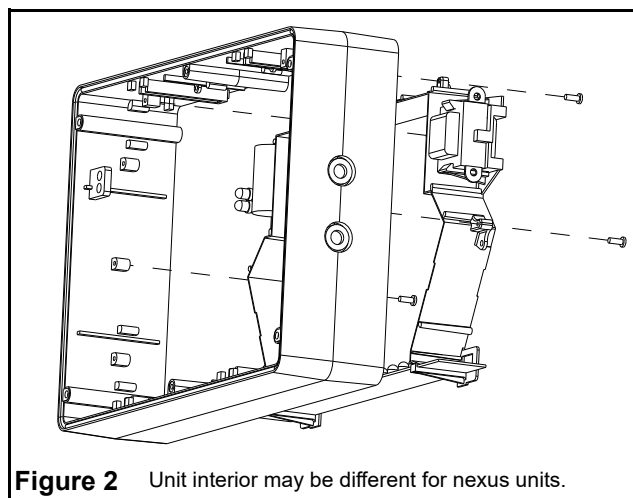

Figure 2 Unit interior may be different for nexus units.
- g. In order to access the knockouts of the frame, remove the 4 electronic module screw(s) holding the electronic module to the frame and separate them (see fig.2).